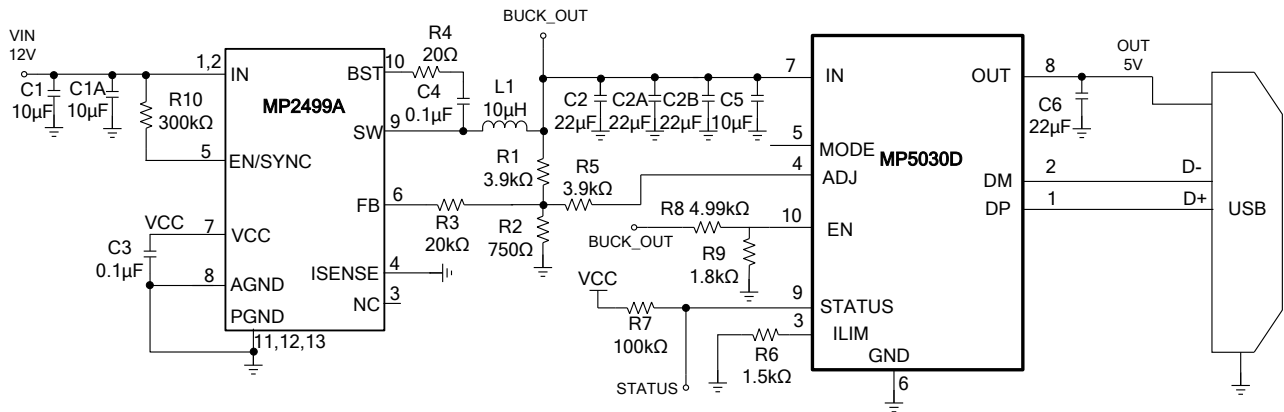

Figure 7: MP5030D + MP2499A for CLA Car Charger, DCP Mode ⁽¹⁰⁾
- 9) The recommended layout is based on the Typical Application Circuit shown in Figure 7.